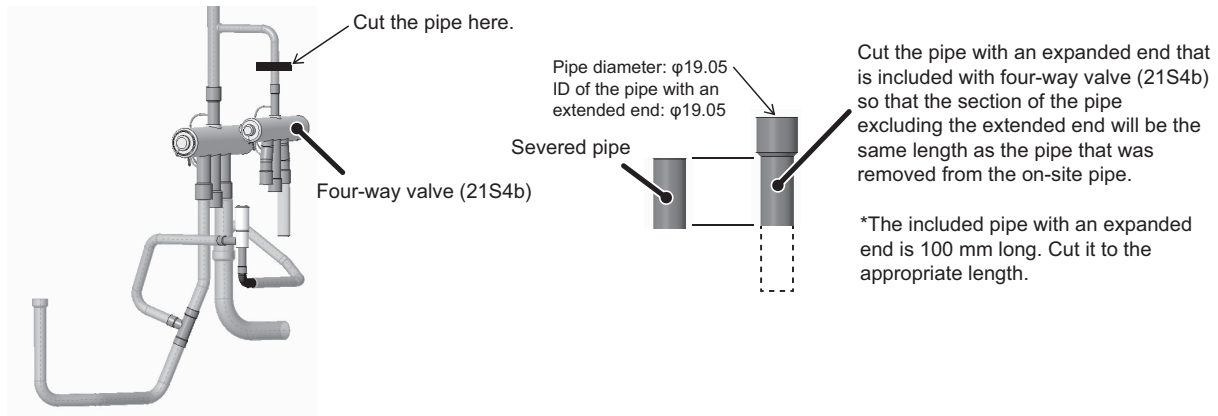

Figure 18
- (18B) To make it easier to connect four-way valve (21S4b), cut the pipe between the section above four-way valve (21S4b) and the pipe bend with a pipe cutter. Cut the pipe with an expanded end that is included with four-way valve (21S4b) to the same length as the pipe that was removed from the on-site pipe. (See Figure 18.)